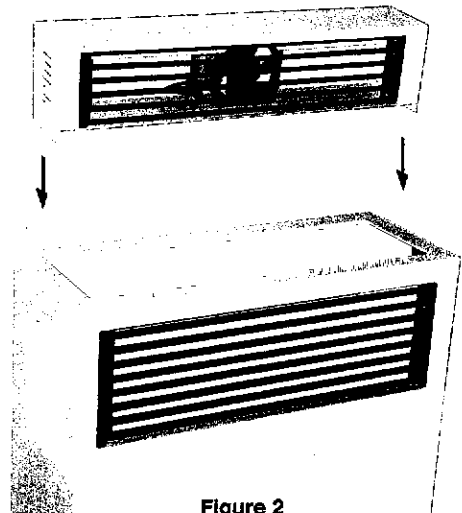

Figure 2
1. Set the blower on top of the furnace with rear flange of the blower cabinet behind the furnace cabinet. This will place the back of the blower cabinet against the wall surface. (See Figure 2).